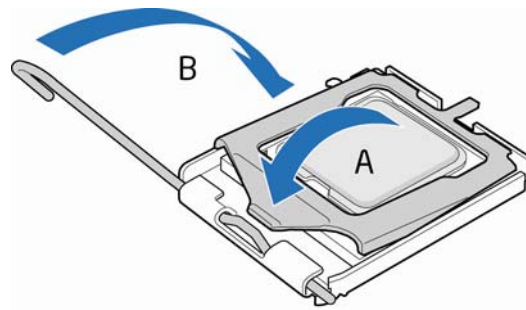

Figure 11. Close the Load Plate
7. Pressing down on the load plate (Figure 11, A), close and engage the socket lever (Figure 11, B).